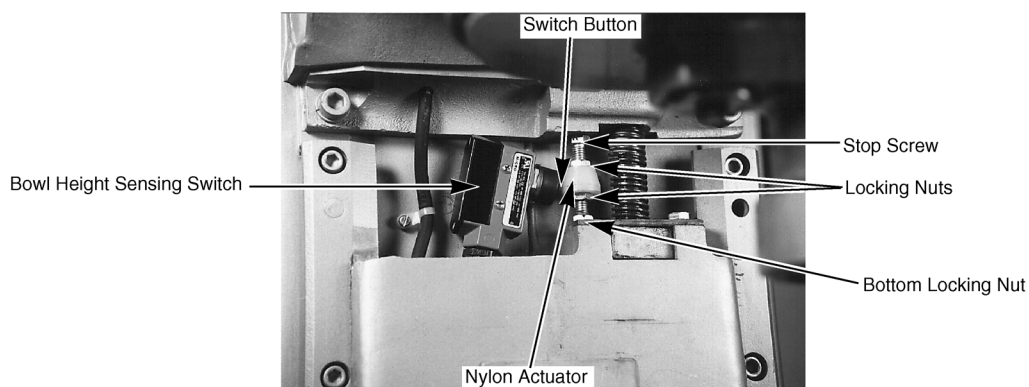

Fig. 10
2. Loosen the bottom Locking Nut (Fig. 10), and turn the Stop Screw *counterclockwise* to increase the clearance or *clockwise* to decrease the clearance.